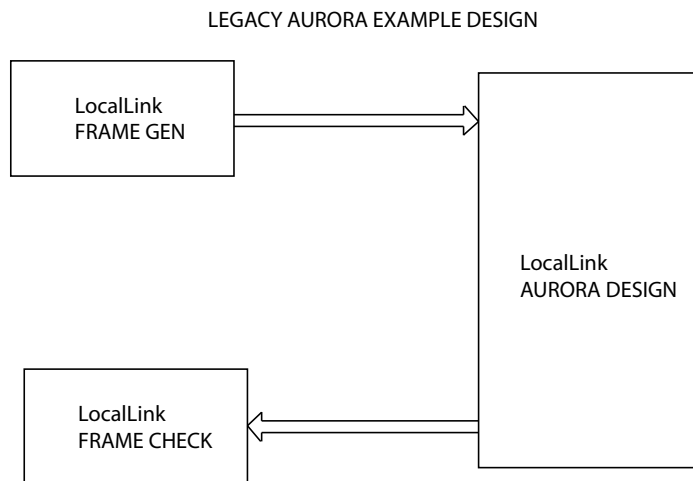
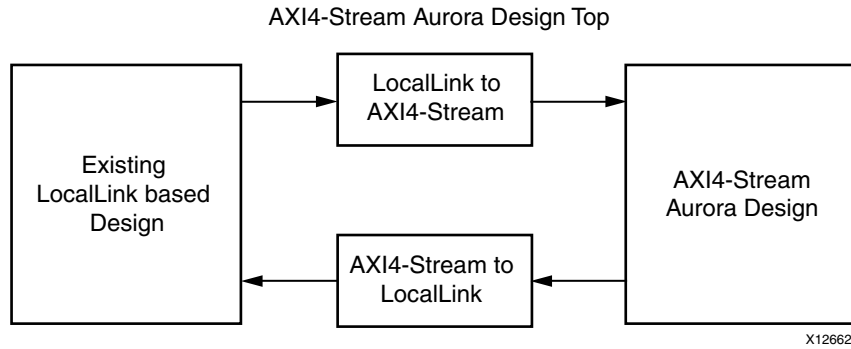

Figure B-1: Legacy Aurora Example Design
Figure B-2: AXI4-Stream Aurora Example Design
Figure B-1 shows an example Aurora design using the legacy LocalLink interface. Figure B-2 shows an example Aurora design using the AXI4-Stream interface.
2. See Figure B-2, page 114 for the emulation of a LL Aurora core from a AXI4-Stream Aurora core.
5. Connect the shim and AXI4-Stream Aurora design as shown in Figure B-2, page 114.